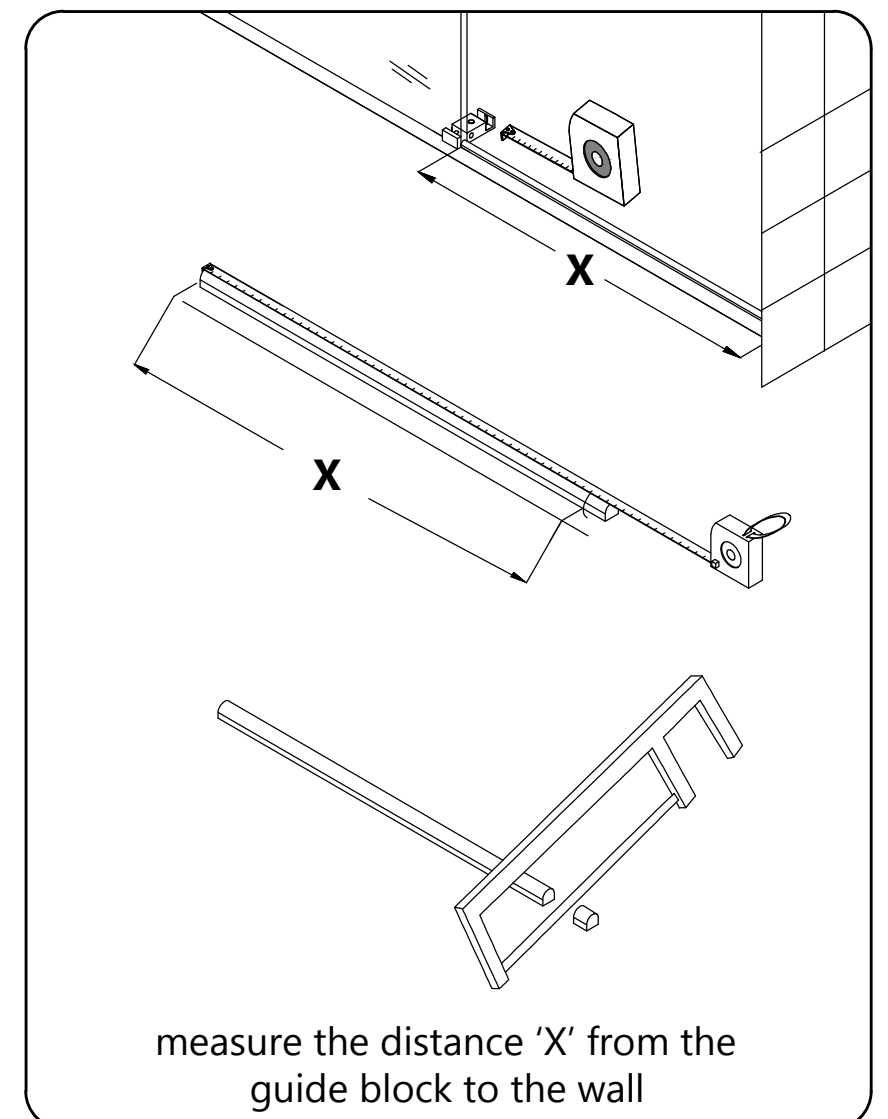

Fig 10
10. Measure the distance from the edge of the **Guide Block (A)** to the wall. This distance will be "X". Cut the **Anti-Splash Guard (B)** to the size of: X. **(Fig 10)**